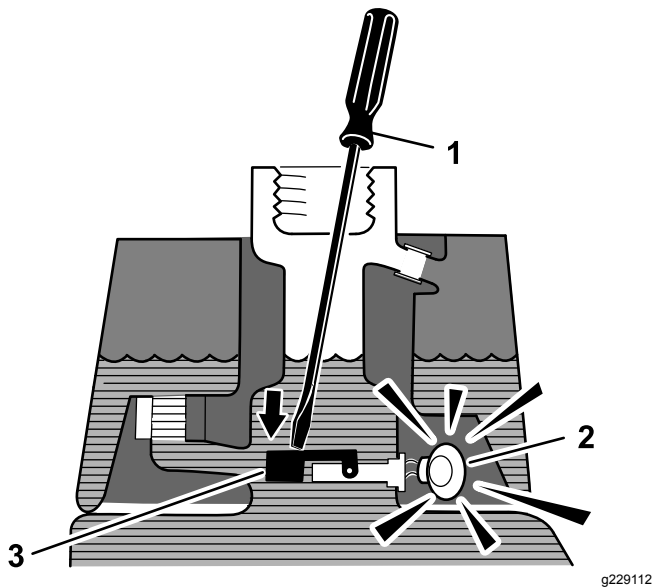

Figure 46
3. Insert a clean rod or screwdriver into the tank neck and gently push down on the float switch (Figure 46); the alarm should sound after the 1-second delay.